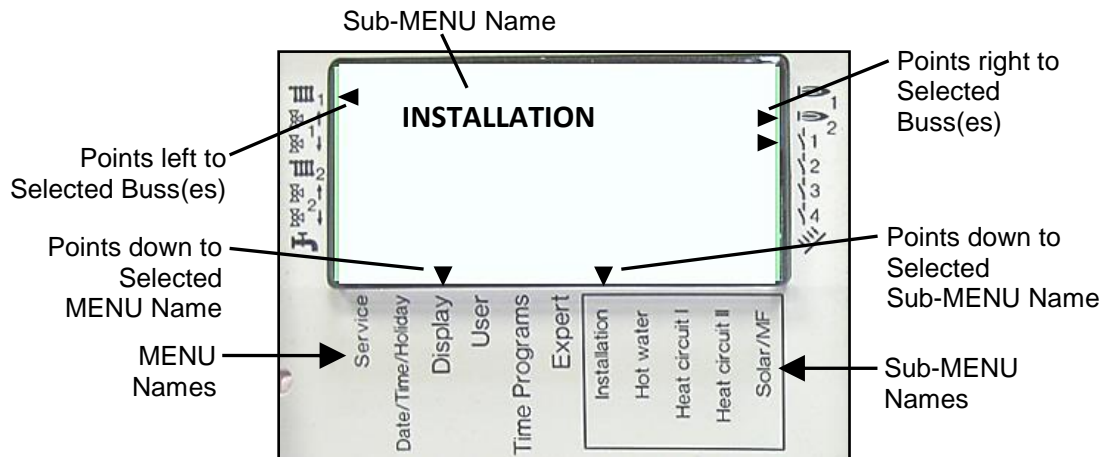

Figure 5-5: MODULEX E8 Controller Front Panel
The selected Menu and Sub-menu are indicated by two black arrows at display bottom pointing to the Menu and Sub-menu names silk-screened below the display (Figure 5-5).
1. When the ON/OFF switch on the front of the boiler is turned ON and the swing-down hinged panel is opened, the controller will enter MENU Mode and INSTALLATION will be displayed (Figure 5-5) in the LCD. This is the initial INSTALLATION menu and it is assumed that all entries have already been made. See sub-section 4.8 of the E8 Controller User Manual (GF-115-C) for INSTALLATION menu initial entry information.
2. Turn the Rotary Knob clockwise until the display advances to the DISPLAY menu. The dial on the clock face will rotate one revolution counterclockwise and then go off. The display will then show INSTALLATION, which is the first sub-menu in the DISPLAY menu group (Figure 5-5). The two small black arrows at the bottom of the display will point down to the menu and submenu names, in this case DISPLAY and INSTALLATION, respectively.
| Use Rotary Knob to navigate to the desired Menu/Sub-menu. Menu and sub-menu are indicated by two small black arrows at the bottom of the LCD display pointing down to menu/sub-menu names below the display (see Figure 5-5). | <p>Example: User Menu & Hot Water Sub-menu</p>  <p>Display Detail Displayed Sub-menu</p> |